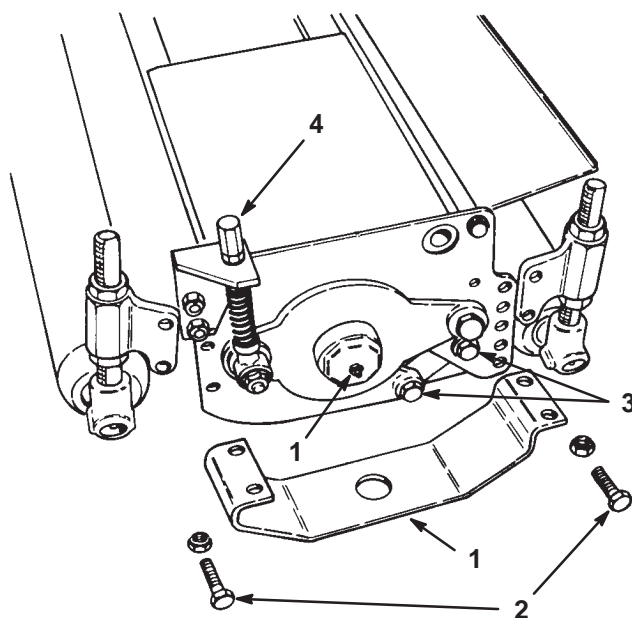

Figure 28
1. Remove the guards from each end of the cutting unit and the front and rear roller assemblies (Fig. 28).
11. To remove the bearing and seal from the bearing housing, remove the dust cap (Fig. 28) and press the bearing and seal out of the housing.